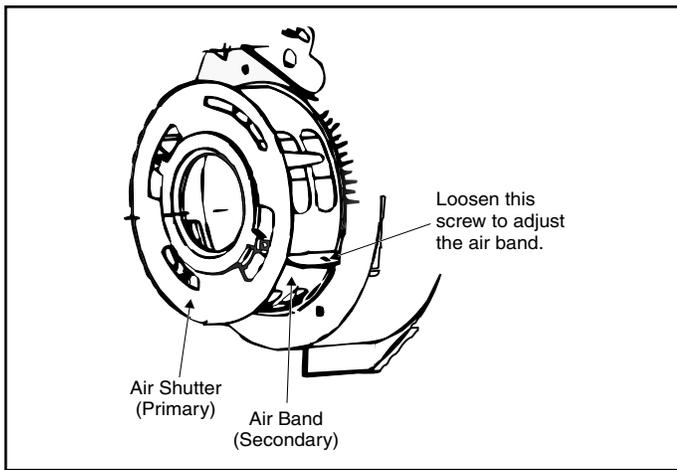

Figure 11. Beckett Oil Burner Air Shutter/Band
5. If the burner is producing more than #1 smoke, adjust the air shutter (primary), and air band (secondary) to reduce the smoke (see Figure 11). To adjust the air shutter, loosen the top screw on air shutter (and lower screw, if necessary) and rotate the shutter until desired smoke level is achieved. If smoke cannot be reduced to desired level by moving the air shutter, adjust the air band to increase the air. To adjust the air band, loosen the air band screw and rotate the band.